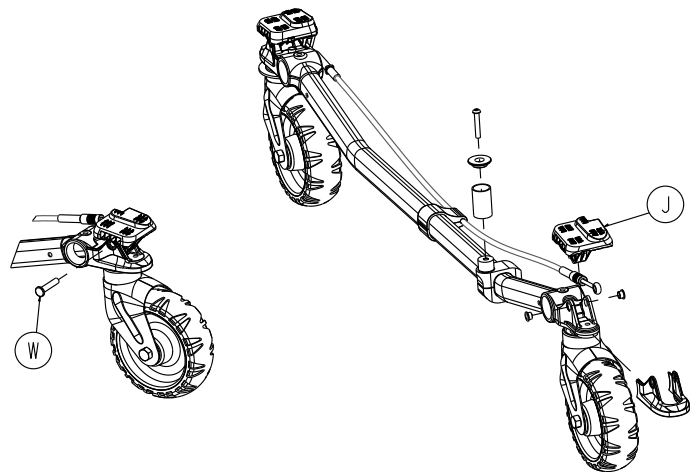

Figure 68 – Brake pedal components
5. Using a slotted screwdriver, remove the slic pin (W) from the brake pedal (J) that secures the cable (on the side that goes through cross-tube) (Figure 68). Save the slic pin.